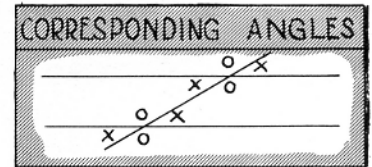

FIG. 339
- When two straight parallel lines are intersected by a single straight line, the corresponding angles formed by the intersecting line and the parallel lines are equal (Fig. 339). The angles (X) are all equal and the angles (O) are all equal. The upper set of four angles correspond with the lower set of four angles.